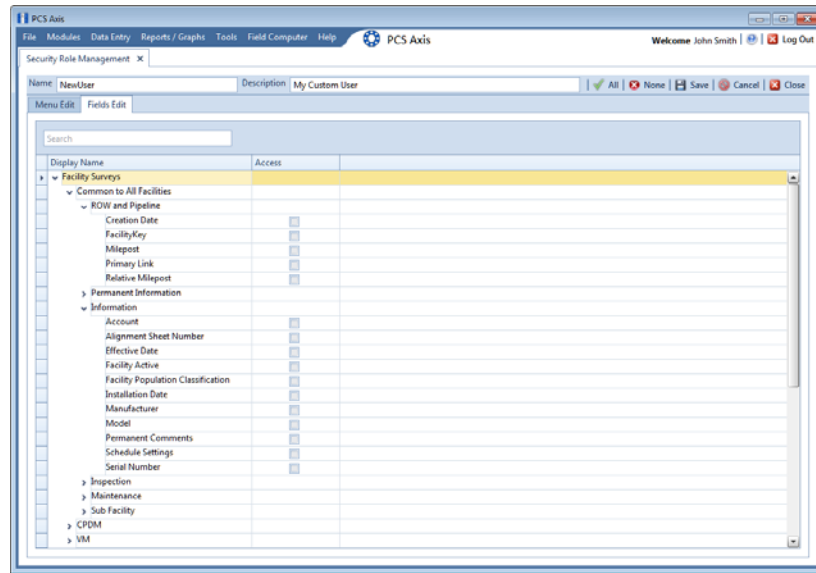

Figure 3-22. Expanded Fields
- c To grant or deny access to sub-category fields, click the arrow next to the main category name to expand the list (Figure 3-22).